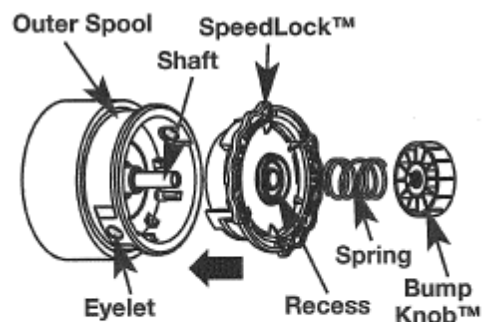

Fig. 22
1. After removing the inner reel, place the SpeedLock™ onto the shaft, making sure to align the arrows with the eyelets in the outer spool (Fig. 22).
2. Place the spring over the shaft and into the recess in the SpeedLock™ Spool (Fig. 22).
3. While holding the outer spool in place, insert the bolt located in the Bump Knob™ through the end of the spring and into the end of the shaft (Fig. 22).
4. While slightly compressing the spring, screw the Bump Knob™ clockwise into the shaft (Fig. 22). Tighten Securely.